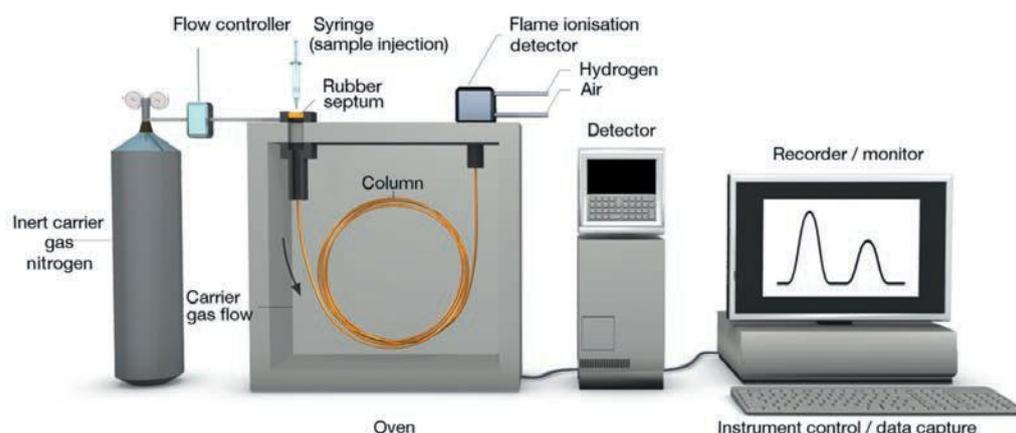

Figure 1.4.5: Schematic of gas chromatography.
Gas chromatography (GC) is effective at separating gaseous or volatile (low boiling-point) mixtures. Mixtures that are susceptible to degradation at high temperature are not suitable for gas chromatography. The mixture is introduced in very small quantities via a microlitre pipette. The sample is injected through a diaphragm into one end of a coiled chromatography column. The column is housed in a thermostatically controlled oven to ensure the mixture, if not already a gas, is converted to a gaseous state. On entering the column, the components are transported through the column by an inert **carrier gas** (usually hydrogen, nitrogen or helium) as the mobile phase (Figure 1.4.5). The flow rate of the gas and temperature of the oven can both be controlled to assist in the separation.